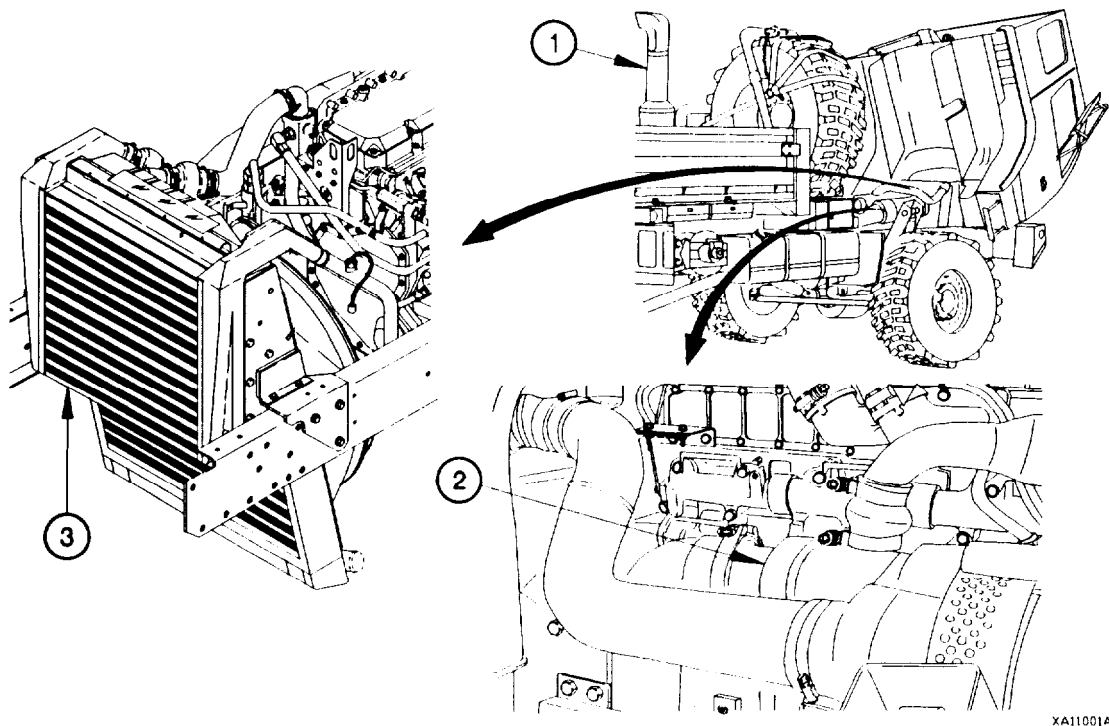

Figure 1-6. Engine Air Intake System
The engine air intake system consists of a dry-type air cleaner (1, Figure 1-6), turbocharger (2), and a charge air cooler (3). The turbocharger increases engine horsepower by delivering a higher volume of air to the engine. Engine exhaust gases flow through the turbocharger, causing a turbine wheel to spin. As the turbine wheel spins, a compressor wheel on the opposite end of the turbine wheel shaft spins and draws fresh air through the air cleaner. The compressor wheel compresses the air and delivers it to the charge air cooler. The air flows through the charge air cooler which cools the air before it is delivered to the engine cylinders. The charge air cooler allows a denser charge of air to be delivered to the engine, which also aids in increasing engine horsepower.